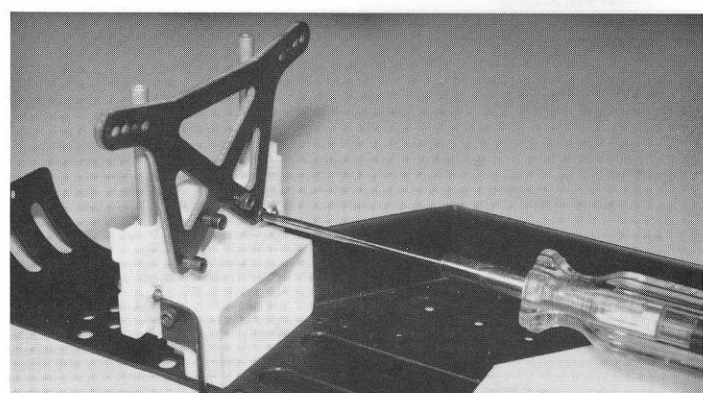

**Fig. 82**
□ **Fig. 82** Your installed bulkhead will look like fig. 82.